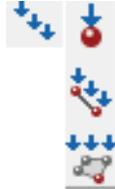

Figure 72: The Create load menu
-  Select the button corresponding to the load from the menu appearing when the *Create load* is selected Figure 72: The Create load menu (on page 109).